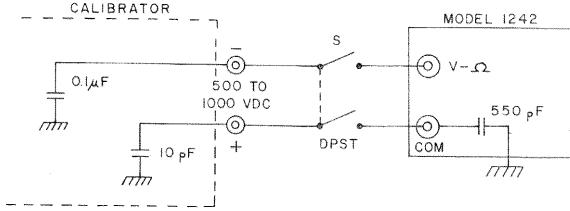

Figure 9A. High Common Mode Application Circuit
Do not operate the meter with more than 500 volts common mode or damage to the instrument may result. When monitoring sources greater than 500 volts where one terminal is at line ground or neutral potential, that terminal should be connected to meter COMMON. Many commercial isolated power supplied if left ungrounded are capable of producing excessive common mode voltages when operating with greater than 500 volts output under certain conditions. In figure 9A, representing a typical calibrator, a large $0.1\mu\text{F}$ capacitor is often provided from (-) output terminal to ground. The other capacitor is figure 9A represents stray in the instrument from (+) output terminal to ground. If the calibrator has its (+) positive terminal connected through (S) to common (-) of the instrument and its negative terminal connected to ($V - \Omega$) input of the instrument, the output of the calibrator will appear as a common mode signal to the instrument. When switch (S) is closed and the output of the supply is greater than 500 volts, the common mode rating of the instrument will be exceeded. To eliminate this possibility during this particular high voltage measurement, the COMMON input to the instrument should be grounded.